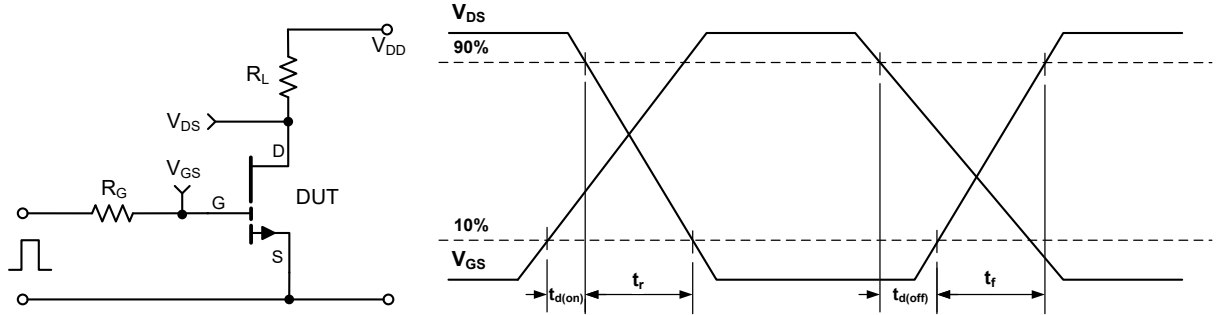

Figure 12: GS66508T switching time test circuit and waveforms
(6) See Figure 12 for timing test circuit diagram and definition waveforms